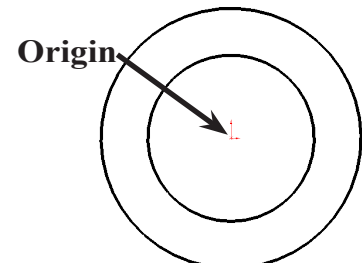

Fig. 2
Step 3. Click **Circle**  (S) on the Sketch toolbar.
Step 4. Draw two circles starting at the Origin , **Fig. 2**.